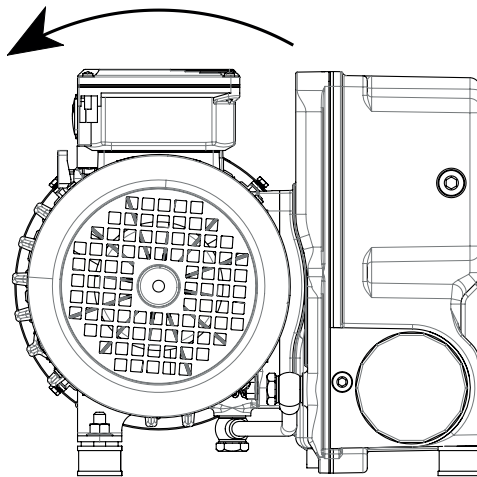

Fig.6
- Check direction of rotation by starting the pump for a short time (2-3 seconds). The correct direction is shown by the arrow on the pump (Fig. 6). In case of wrong rotation, it is necessary to change the motor rotation by exchanging position of two of the three connections in the motor terminal box.